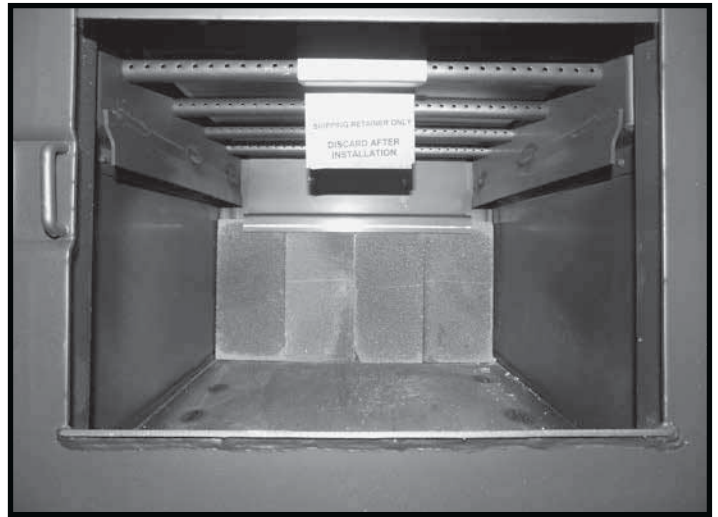

Figure 20: Bricks against rear wall.
2. Place 3 more bricks up under the rear brick retainer to complete the rear brick placement (Figure 20).